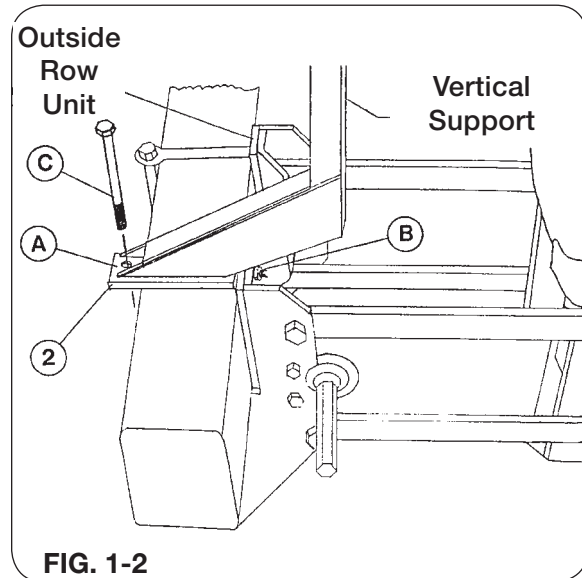

FIG. 1-2
NOTE: ON JOHN DEERE PLANTERS equipped with frame mounted coulters, install the L.H. vertical support, as shown in Fig. 1-2.
2. ON JOHN DEERE PLANTERS with frame mounted coulters, install L.H. vertical support tube (2003039B) onto planter row unit (Fig. 1-2). The row unit should be safely blocked before removing any hardware.
- B. Install vertical support tube as shown in Fig. 1-2. Fasten to planter frame using 3/4-10 locknut (9802).